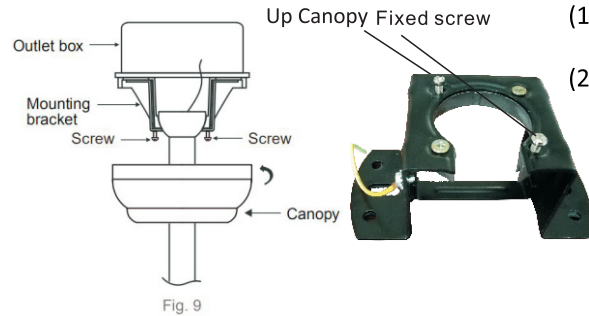

Fig. 9
- (2) Rotate the motor assembly until the "Check Tab" on the mounting bracket has dropped into the "Registration Slot" on the hanging ball and seat firmly (Fig.7 Fig.8 Fig.9)